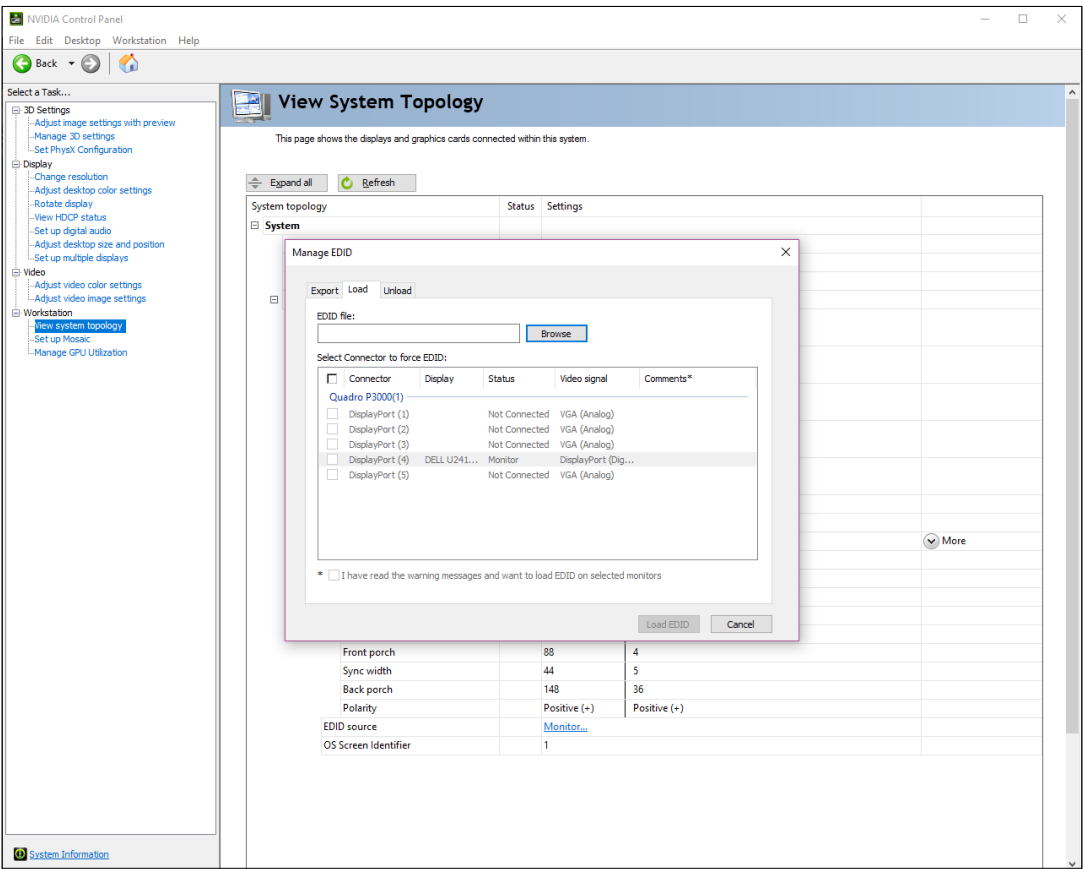

Figure 3
4. Select the EDID Link beside one of the DisplayPorts. This will open the “Manage EDID” page (fig. 3).